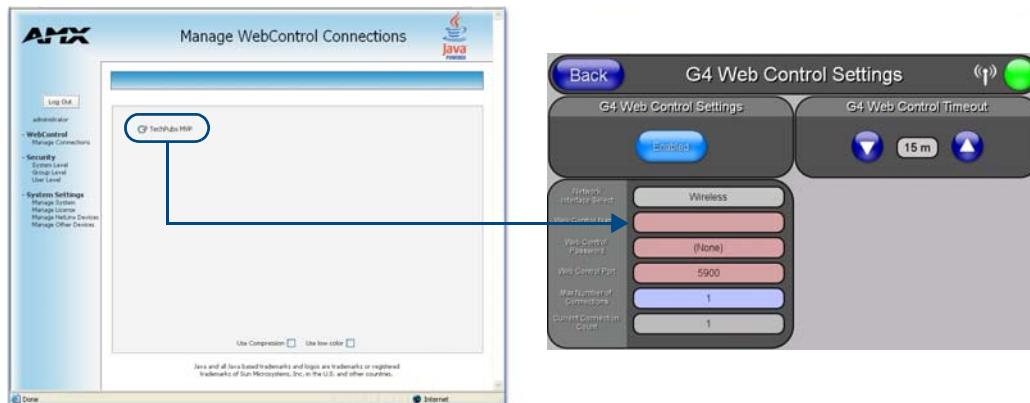

FIG. 41 Sample relationship between G4 Web Control and Manage WebControl Connections window
- The on-screen links use the IP Address of the panel and not the name for communication (FIG. 41).